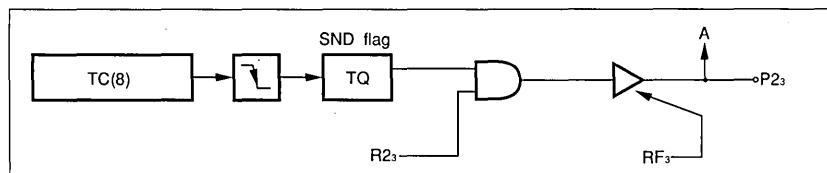

Fig. 6 SND Signal
The count pulse CP can be selected from divider signals  $f_{IN}$ ,  $f_8$  and  $f_0$ , and the system clock, by using the mode register RD. If the count register (TC) overflows, the SND flag reverses its status at the falling edge of the TC. A sound signal can be obtained at the TC output by putting P2 in output mode and sending a "1" to pin P23 (See Fig. 6).